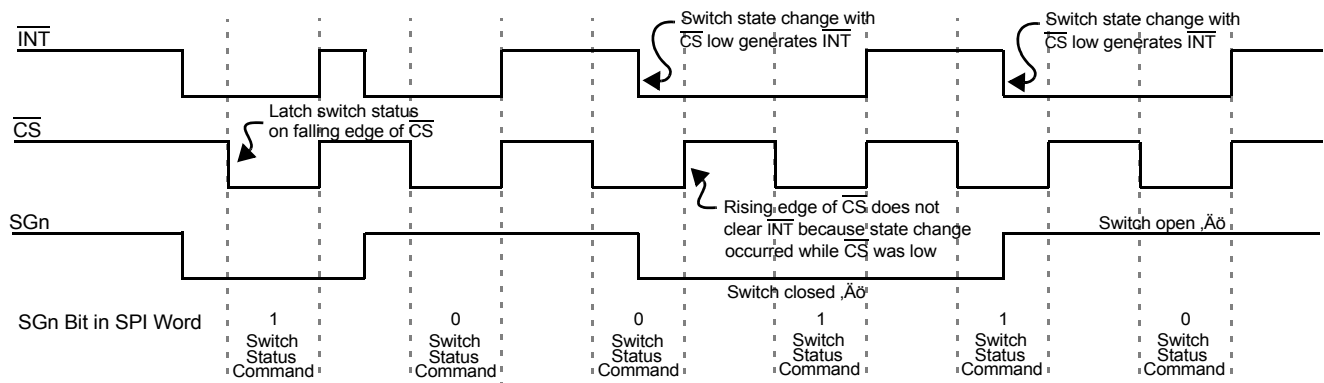

Figure 6. Normal Mode Interrupt Operation
2. \overline{INT} pin is reset to logic [1], except when additional switch changes occur during \overline{CS} low (see Figure 6, page 10).
Figure 6, page 10, is a graphical description of the device operation in Normal mode. Switch states are latched into the input register on the falling edge of $\overline{\text{CS}}$. The $\overline{\text{INT}}$ to the MCU is cleared on the rising edge of $\overline{\text{CS}}$. However, $\overline{\text{INT}}$ will not clear on the rising edge of $\overline{\text{CS}}$ if a switch has closed during SPI communication ($\overline{\text{CS}}$ low). This prevents switch states from being missed by the MCU.